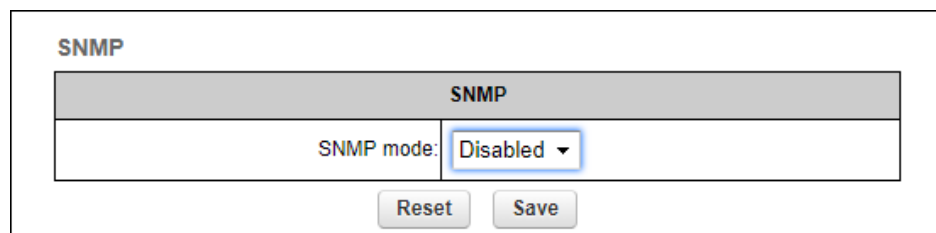

Figure 38. SNMP dialog (SNMP disabled)
- The default **SNMP** dialog will be shown (Figure 38 \(page 78\)).